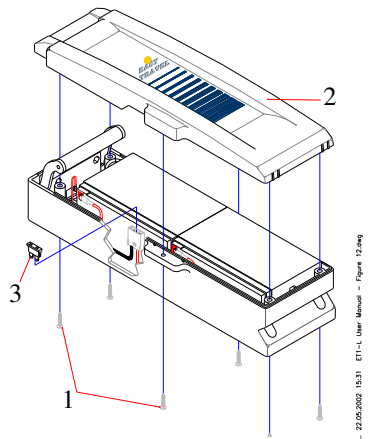

Figure 15
The fuse is located inside the battery case. To replace the fuse, open screws (Fig. 15/1) and remove cover (Fig. 15/2). Remove the fuse (Fig. 15/3) from its socket. If 'blown', replace with the same style and size (automotive "blade" type – 20 A). There is a spare fuse attached to the battery-pack cover.
L.L. 02.05.2020 15:31 ET1-E User Manual - Figure 15.png